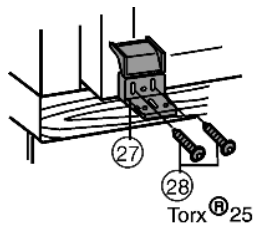

Fig. 15
- Screw plastic bracket *Fig. 15 (27)* onto the handle side of the appliance with M5 screws *Fig. 15 (28)*.